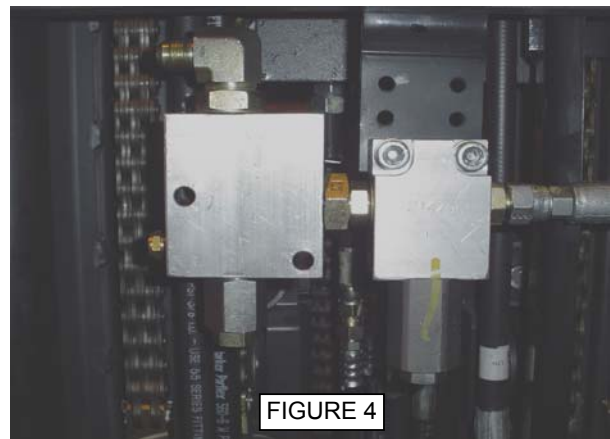

FIGURE 4
4. Hand tighten the 90° fitting until it is oriented as shown in figure 4.